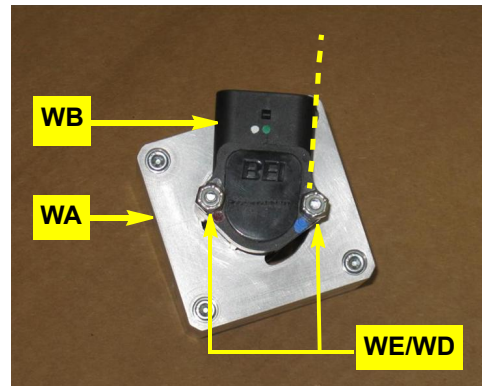

Figure 1a: Prepared WAS housing/connector
- a. Using hardware **WE** (nuts) and **WD** (screws - not visible), attach the WAS wire connector **WB** to the WAS housing **WA**. Install the bolts up through the bottom of the housing. Align the right edge of **WB** with the center of a corner of **WA** (Figure 1a).